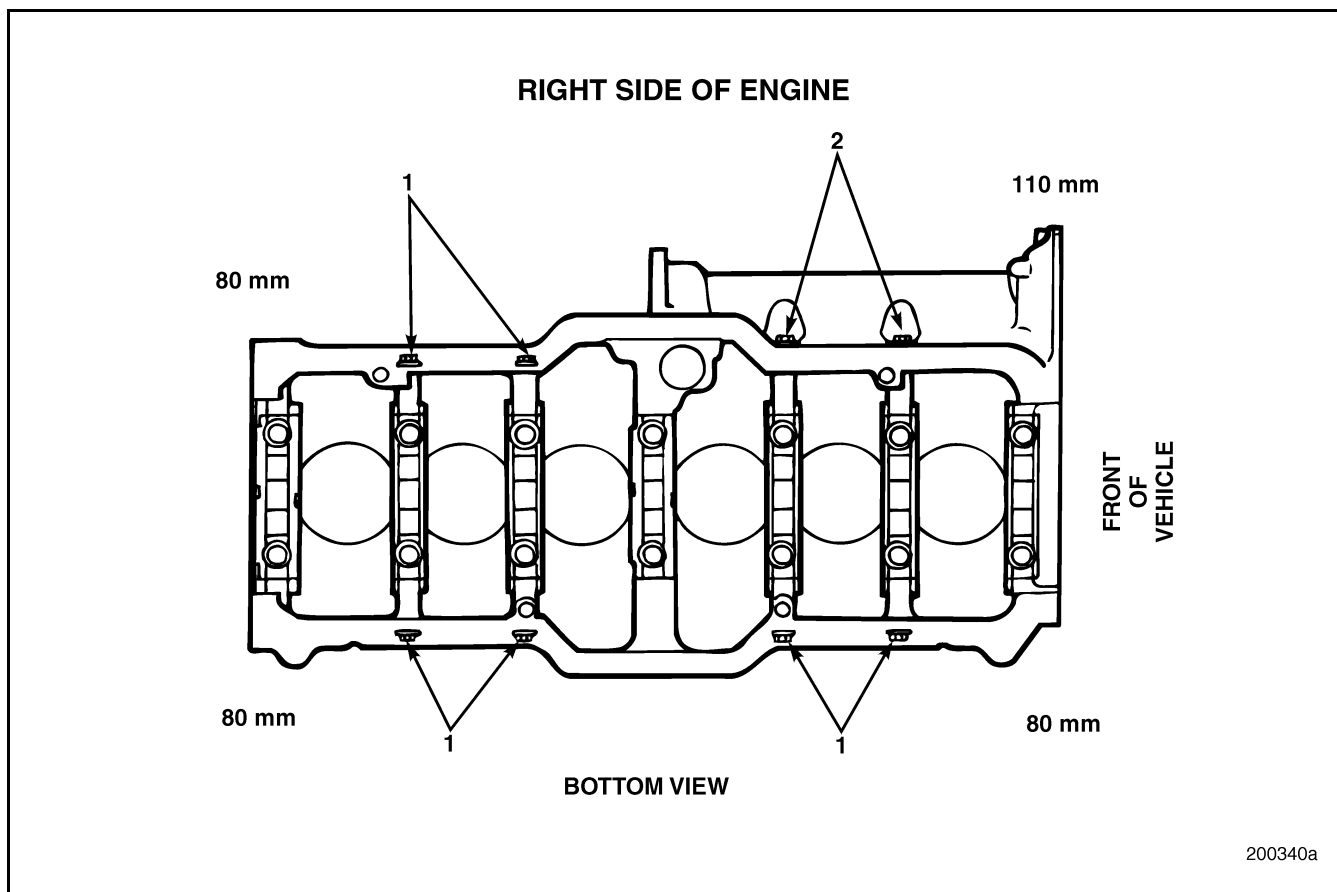

Figure 328 — Butress Capscrew Locations
8. Reposition the cap on the journal. Lubricate the capscrews with clean engine oil of the proper specification. Lubricate and install the bearing cap butress capscrews as required, finger-tight. Install the bearing cap capscrews and tighten to the specified torque value, 210 lb-ft (285 N•m), using torque wrench J 24407, or equivalent. Refer to Figure 328.